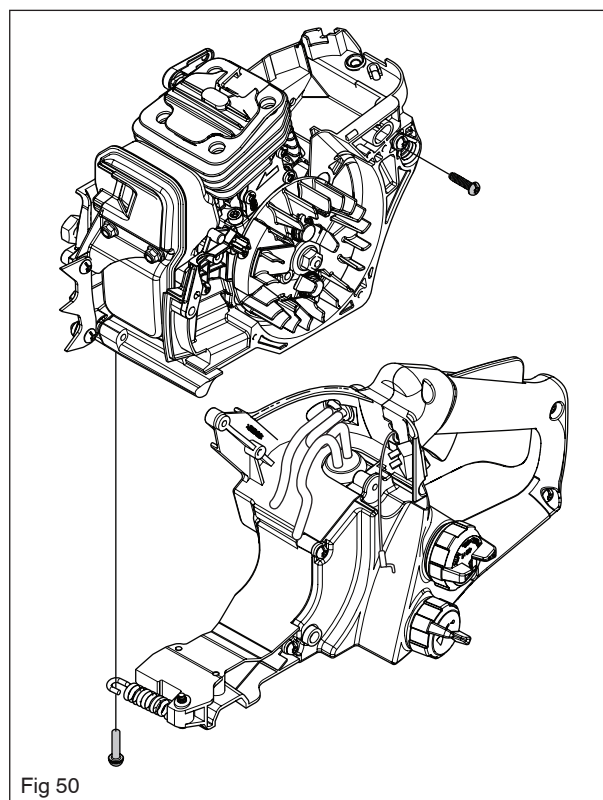

Fig 50
6. Loosen the screws outlined in figure 50 and remove the tank unit..
1. Fit the tank unit. See figure 50.